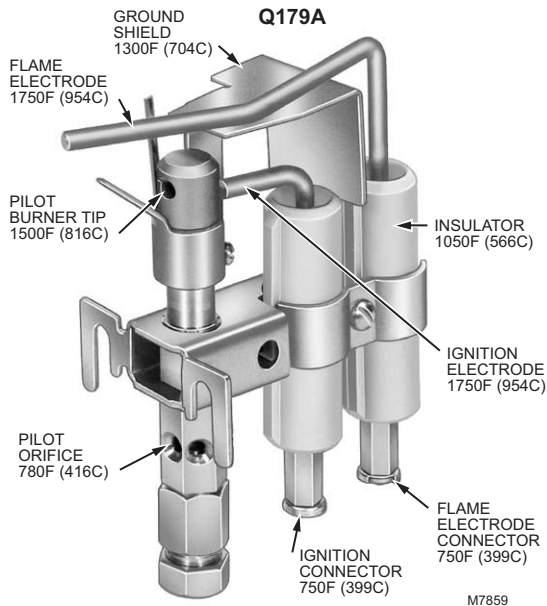

Fig. 3. Component maximum temperature ratings.
See Fig. 3.
- Where ambient temperatures exceed those specified in Fig. 3.